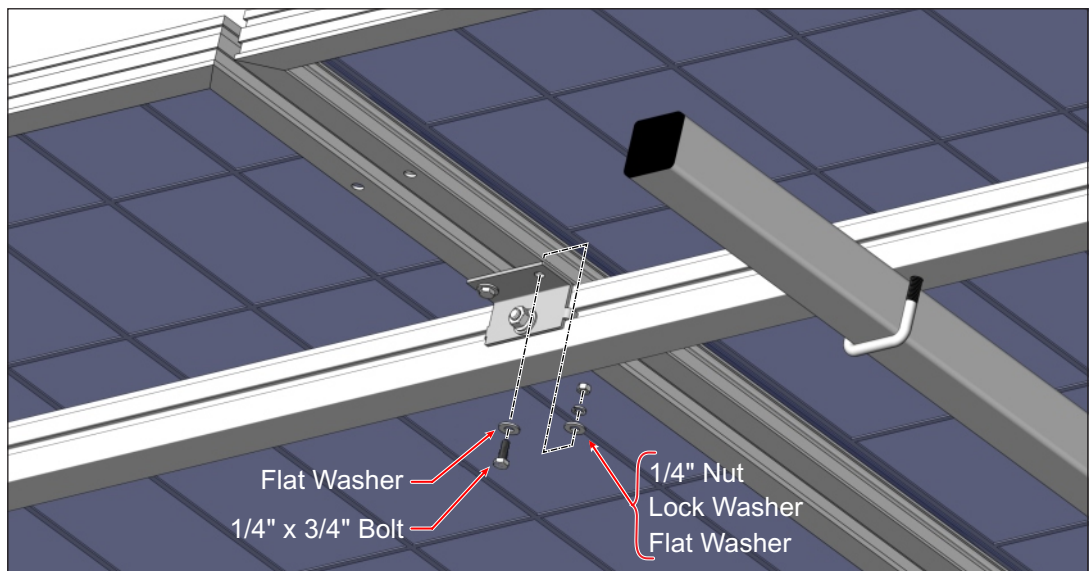

Figure 9-3: Securing the next Row of PV Modules, to the Double Hole Slide Plate
- B. Locate the two next-in-line Double Hole Slide Plates (one on each Rail), loosen the hardware enough so that the Slide Plates will move, and slide their mounting holes into alignment with the just-installed-Module. Secure the Module with 1/4" x 3/4" bolts and hardware. Finger-tighten for now. (See Figure 9-3)
- A. Place the next in-line PV Module, aligning it with the mounting holes of the two Double Hole Slide Plates. Secure with 1/4" x 3/4" bolts and hardware. Finger-tighten for now. (See Figure 9-3)
- A. Align the next in-line PV Module to the mounting holes of the two previously aligned Double Hole Slide Plates. Secure with 1/4" x 3/4" bolts and hardware. Finger-tighten for now. (reference Figure 9-3)